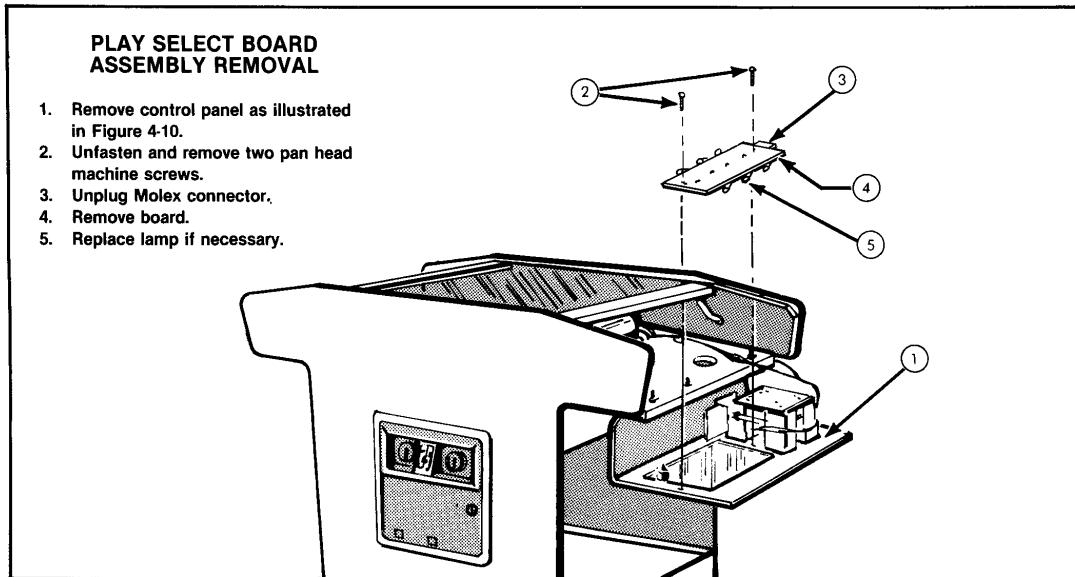

Figure 4-13 Play Select Board Assembly Removal
H. PLAY SELECT BOARD ASSEMBLY REMOVAL (See Figure 4-13)